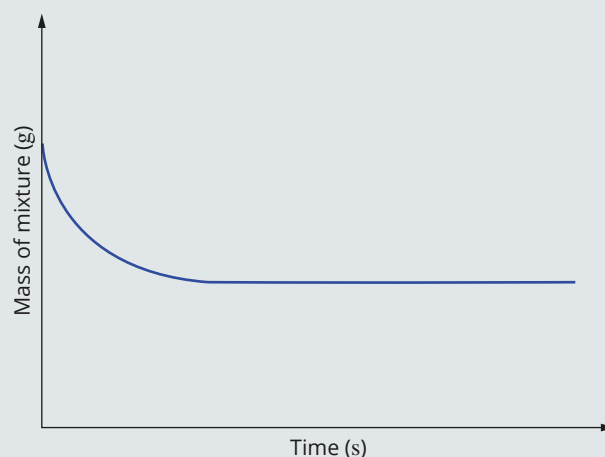

FIGURE 1.3.3 Mass of reaction mixture over time
The changing mass of the mixture was observed for a period of time, and the graph in Figure 1.3.3 was obtained.
- c Redraw the graph in Figure 1.3.3, then sketch in the expected curve if an excess of 1.00 mol L^{-1} nitric acid had been used instead. Label your new graph line. Explain the difference in shape.